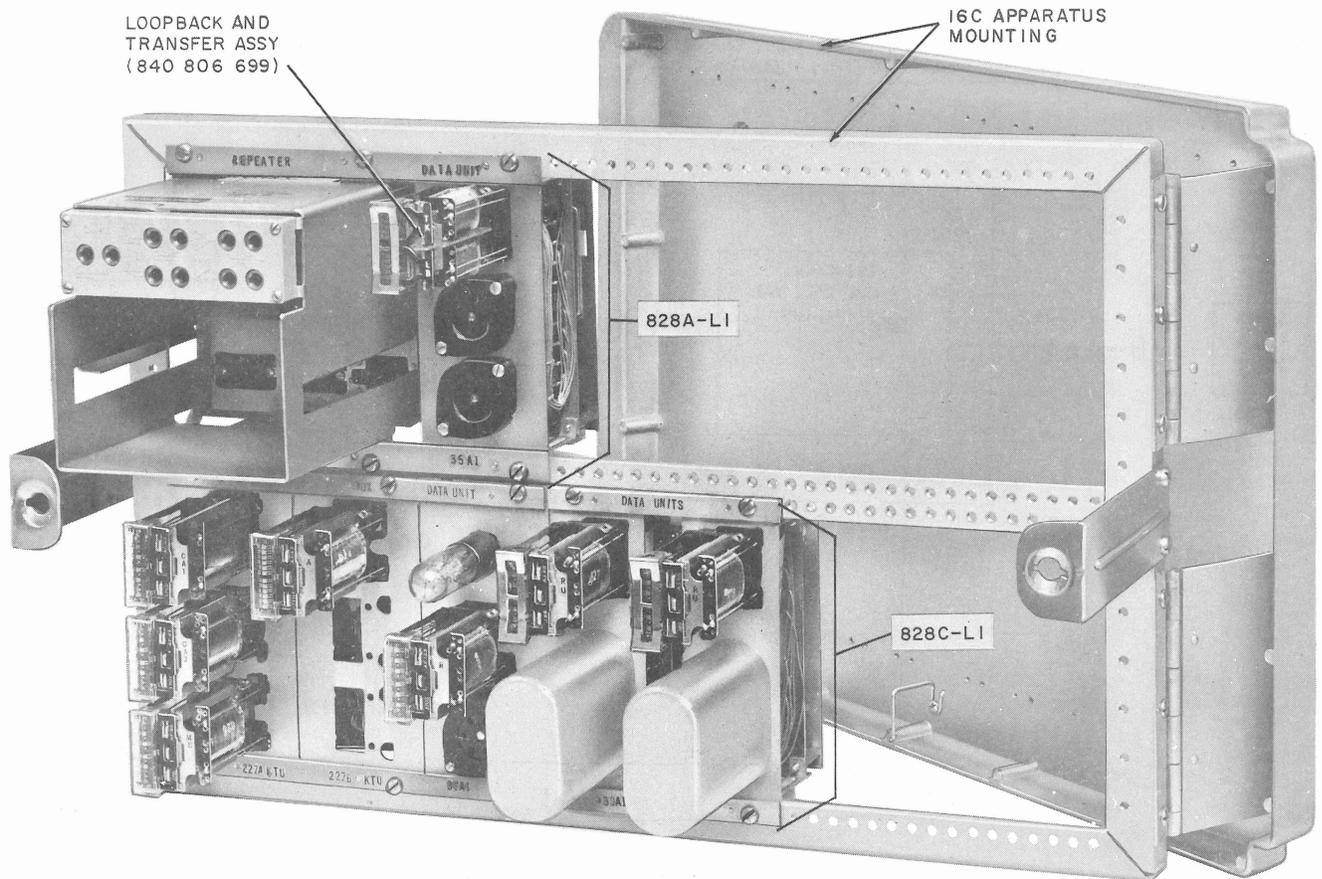

Fig. 1—Front View of Data-Only Station Arrangement with DDD Backup
3.01 A front view of a data-only station arrangement and installation with DDD backup is shown in Fig. 1. This consists of DAS 828A-L1 and 828C-L1 mounted together on a 16C apparatus mounting. This arrangement, together with a 565HK telephone set (not shown), the proper plug-ins, and power supplies, make up a complete arrangement for one 4-wire PL circuit with DDD backup.